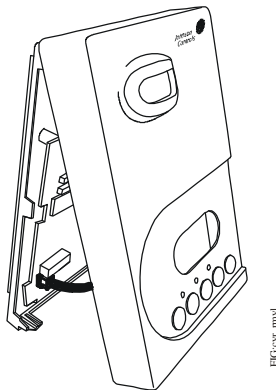

Figure 1: Removing the Thermostat Controller Cover (TEC21x6H-4+PIR)
2. Pull the bottom edge of the thermostat controller cover and open the thermostat controller as illustrated in Figure 1.